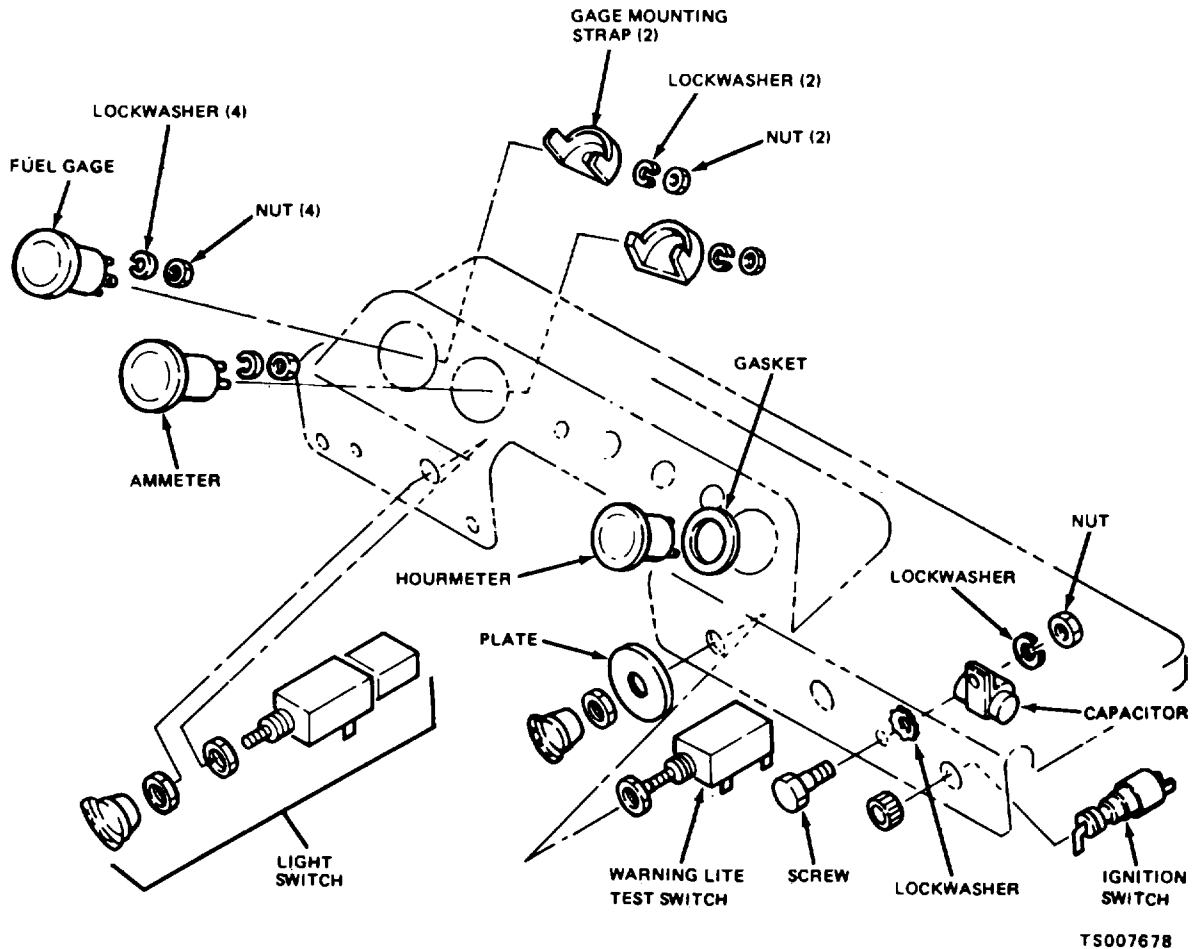

Figure 4-5. Instrument Panel, Disassembly and Reassembly
(1) Remove the assembled instrument panel from the lift truck as shown in figure 4-5.
(2) Tag all leads before disconnecting them to assure that they are identified for reassembly.
(3) Disassemble the instrument panel as required, as shown in figure 4-5.
(1) Reassemble the instrument panel as shown in figure 4-5.
(2) Connect the electrical leads following the instructions on the tags that were installed at
(3) Install the instrument panel as shown in figure 4-5.